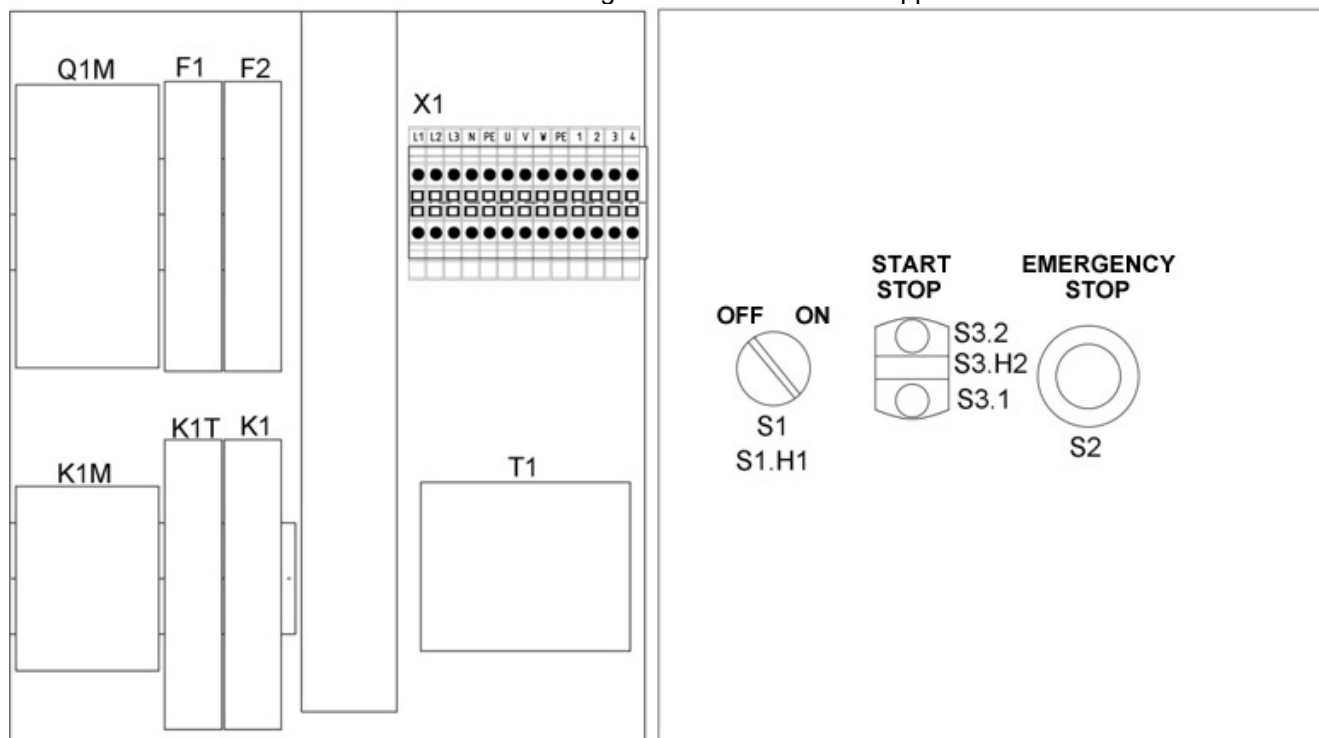

Fig. No.5 – ZE-STRONG-2000-N – Control unit
3. Switch on the motor protective switch **Q1M** inside the control unit (see Fig. No.5).